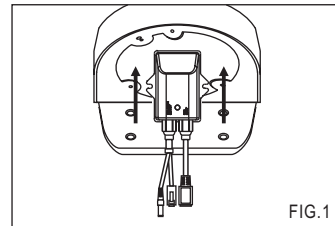

FIG.1
1. Plug the network cable to RJ-45 connector of the PoE Splitter and then put the PoE Splitter on the wall mounting bracket (FIG.1).